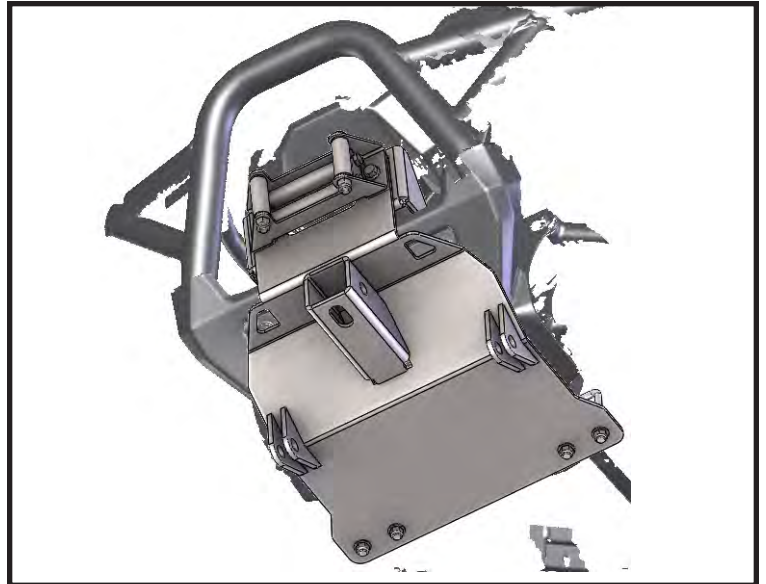

Figure 6: Fully Installed
7. Secure front of Plow Mount (1) and lower portion of front bumper using bolts (3.1) as shown in **Figure 6**.
"Figure 6" Standard Fairlead
“Figure 6” Blade Rotation Angle